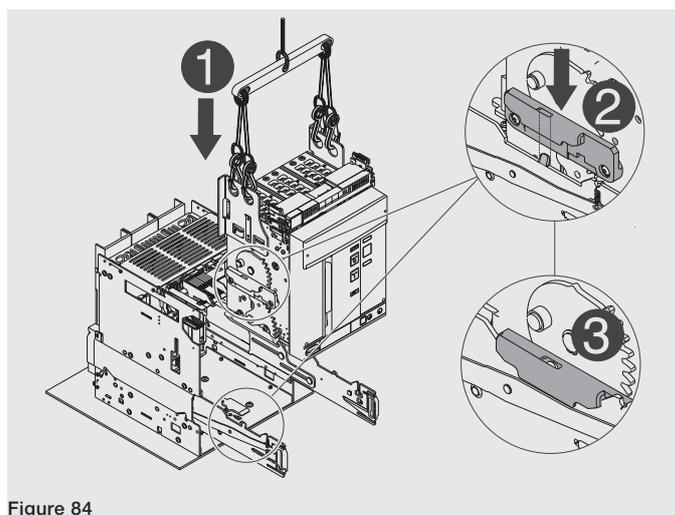

Figure 84
4. Position the moving part on the guides of the fixed part. Latch by inserting the hollow part of the side in the latch of the guide of the fixed part See Figure 84.